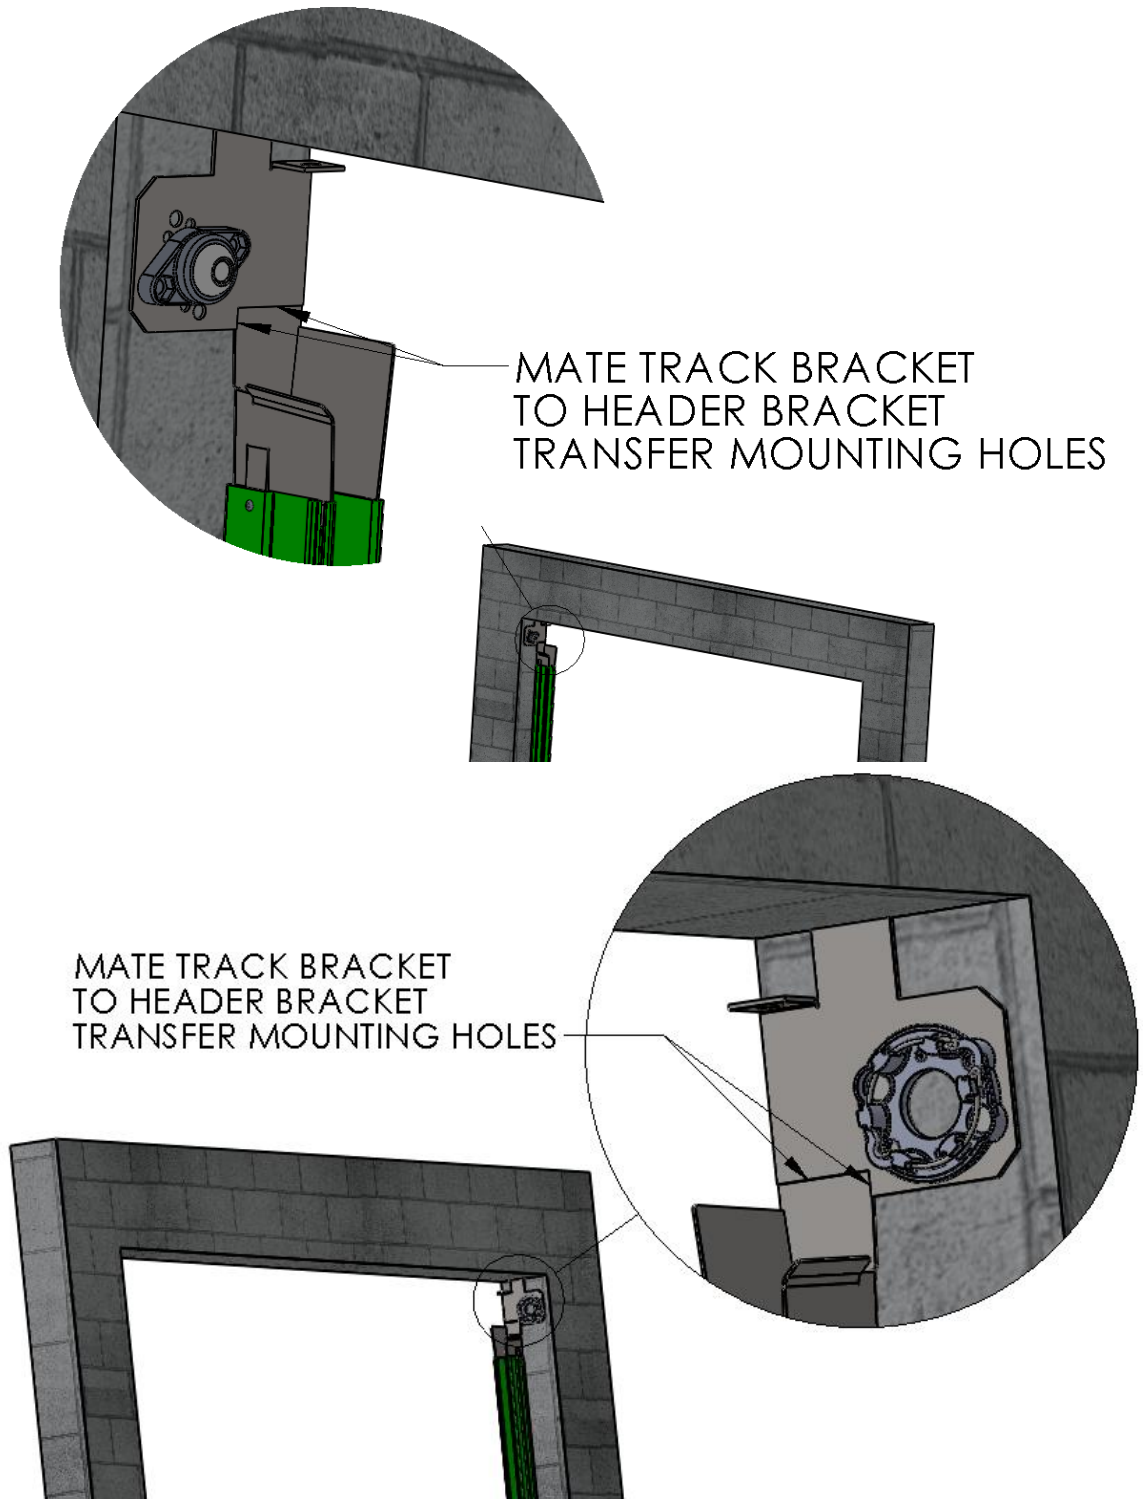

Figure 6 LOCATE, MARK, INSTALL TRACK ASSEMBLIES
1. To locate the Track Assemblies, align the mating surfaces of the Track Transition Bracket and the Header Mounting Bracket. (Figure 6 LOCATE, MARK, INSTALL TRACK ASSEMBLIES)